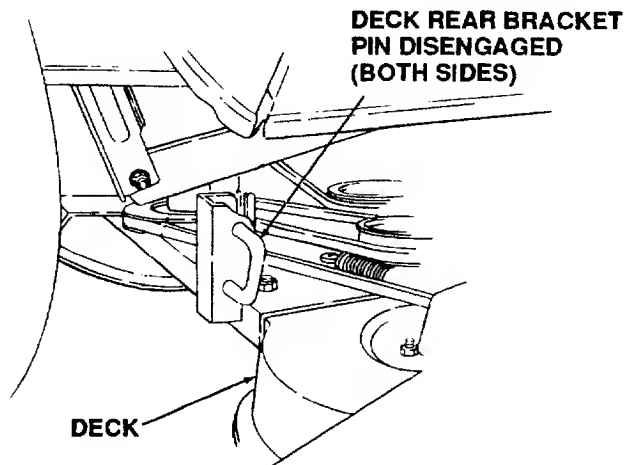

Figure 51
7. If not previously accomplished, pull the deck rear bracket pins outward, turn downward and release so both spring-loaded pins are held against the outside surface of the brackets in their disengaged positions. (Refer to Figure 51.)